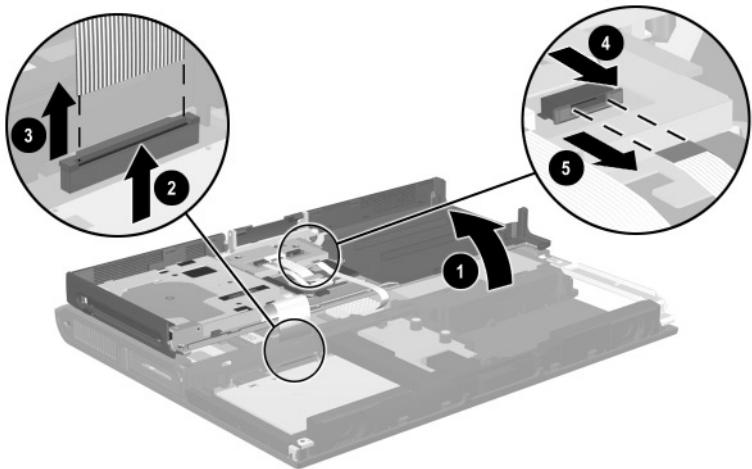

Figure 5-30. Removing the Palm Rest
8. Lift the front edge of the palm rest and swing it up and back **1** until it rests on the top cover (Figure 5-30).